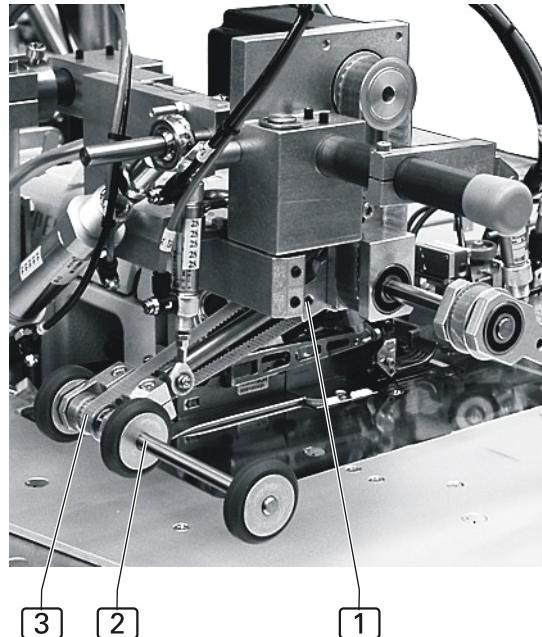

Fig. 5
3. **Fig. 5:** Slacken the toothed belt [3] by removing the Allen screw [1] at the bearing and sliding the spacer shaft with the transport rollers [2] up.